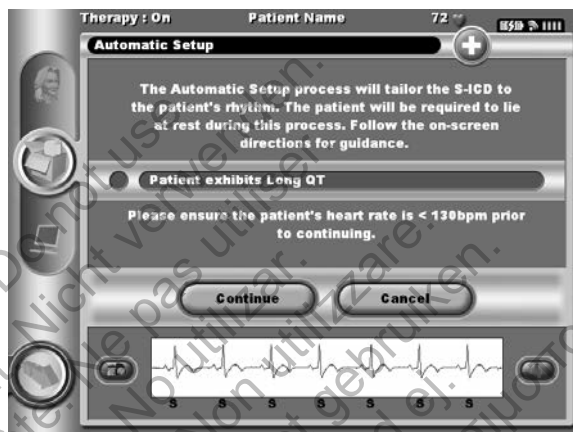

Figure 26: Automatic Setup screen
4. Select the Patient Exhibits Long QT button if the patient's QT interval is greater than 250 ms (Figure 26). Select Continue if the patient's heart rate is less than 130 bpm. For rates greater than 130 bpm, select the Cancel button and refer to the instructions for Manual Setup.